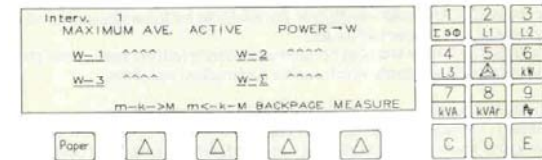

Fig. 3.37
- If for example, [1] is pressed again, the average active power reading is selected for alarm monitoring. The page offering the choice between three phase power and that of an individual phase appears (see Fig. 3.37).